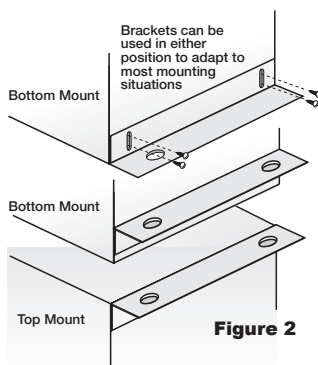

Figure 2
2. Attach adjustable mounting brackets to fan, but leave the screws loose until proper height is determined, shown in Fig. 2. Cut hole to dimensions shown in table below.